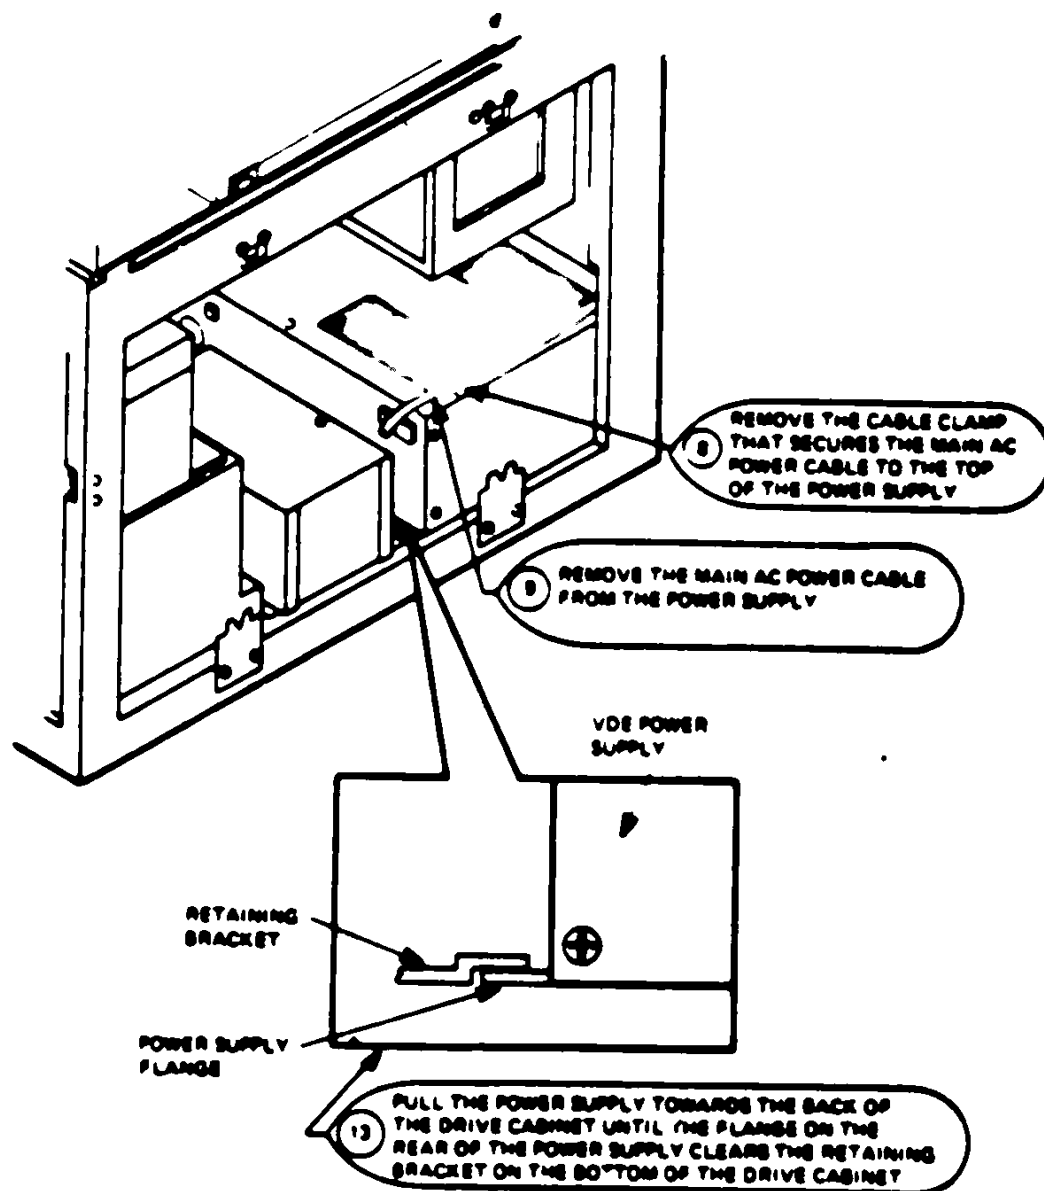

FIGURE 7 RM05 WITH VDE POWER SUPPLY
8. Remove the cable clamp that secures the main AC power cable to the top of the power supply. (See Figure 7)
9. Remove the main AC power cable from the power supply. (See Figure 7)
13. Pull the power supply towards the back of the drive cabinet until the flange on the rear of the power supply clears the retaining bracket on the bottom of the drive cabinet. (See Figure 7)